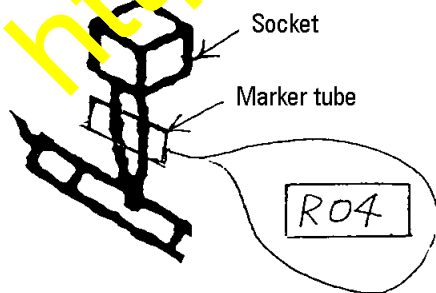

Fig. 2
- 2) Pull out the socket from the removed relay to check that the print on the marker tube positioned at the base of the socket reads "R04". (Refer to Fig. 2.)